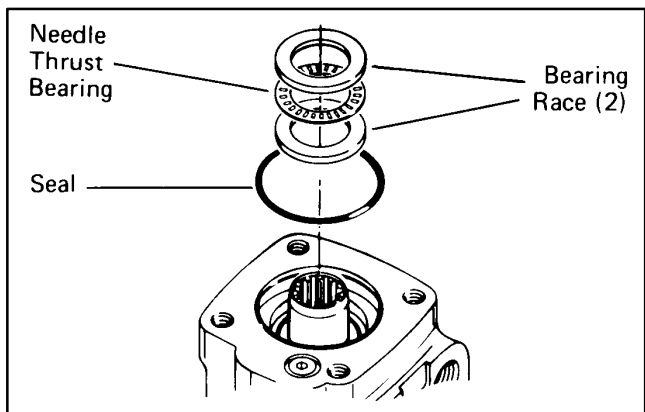

Figure 40
11. Place housing on clean, lint free cloth. Install 2-1/8" diameter seal in housing, see Fig. 40.